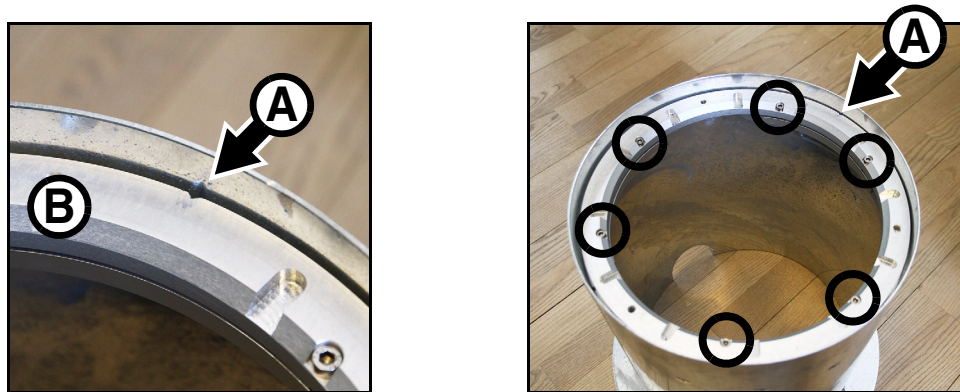

Figure 6: Orientation mark in mounting ring
7. See Figure 6. There is an alignment mark **A** in the mounting ring **B**. Loosen the six screws shown in circles in the mounting ring. This loosens the clamps underneath the mounting ring and lets you rotate the mounting ring to adjust the position of the alignment mark.